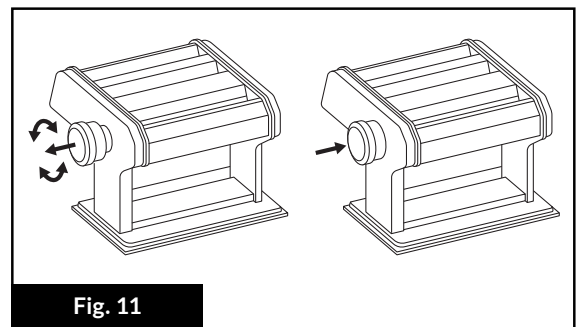

Fig. 11
5. **Adjust Thickness:** Repeat rolling until the desired thickness is achieved (**Fig. 11**).